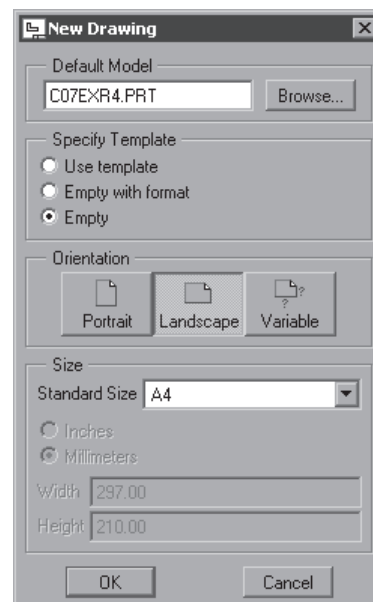

Figure 12-44 The **New Drawing** dialog box with the **Landscape** button selected
- Choose the **Landscape** button from the **Orientation** area, if it is not chosen by default, as shown in Figure 12-44.